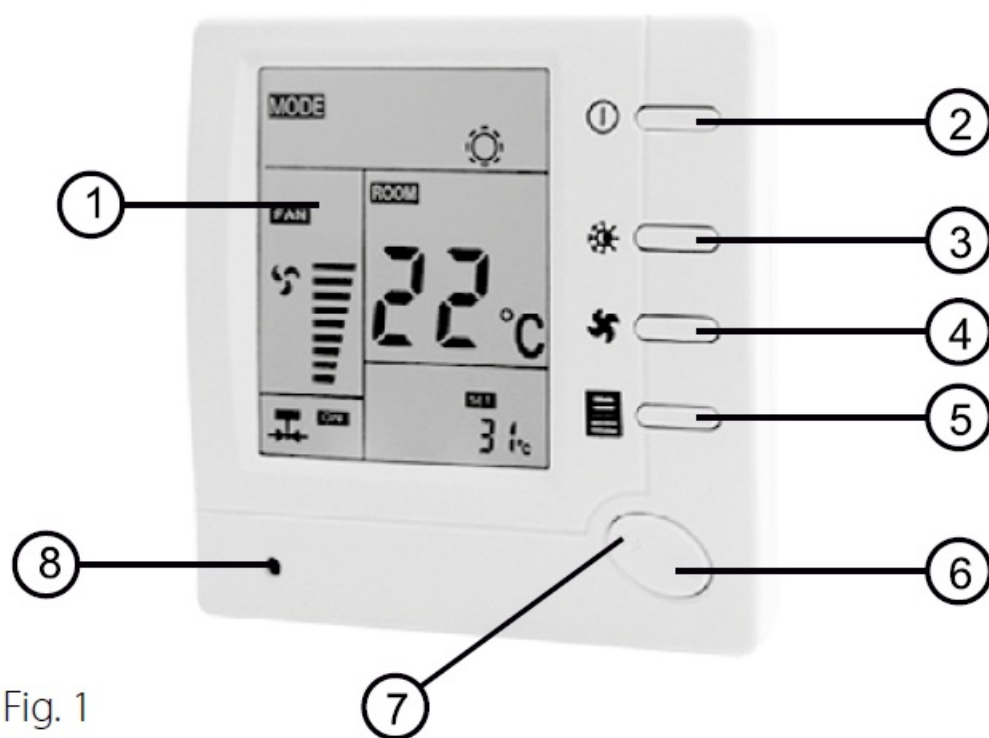

Fig. 1
Press the button to switch to the night mode (5 in Fig. 1). The night mode symbol (9 in Fig.2) appears. This mode will be active for 8 hours and the temperature controller will control heating or cooling according to the schedule below. Press the night mode button again, the corresponding symbol will disappear, which means that the night mode is cancelled.
Setting the control modes allows you to set certain operating characteristics of the temperature controller for the automatic mode, according to your requirements. Switch off the temperature controller by pressing the power button then press and hold the night mode button (5, Fig.1) for at least 4 seconds until the display switches on. This means that you have entered the first menu control mode setting item. There are a total of 4 of these items, which are shown on the display accordingly. The relevant menu item is selected by pressing the button (5). In each menu item, use the “+” or “-” button to change the settings. To exit the menu and return to normal operation, switch off the temperature controller by pressing the power button and switch it on again.